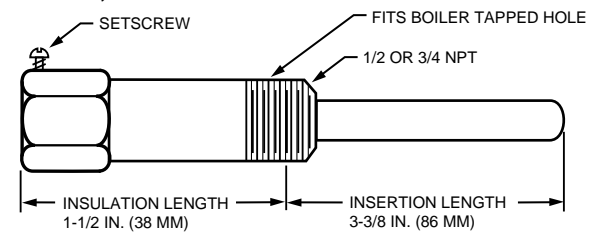

Fig. 3. Approximate immersion well dimensions.
**Immersion Well Dimensions (Order Well Separately):** Refer to Fig. 3.